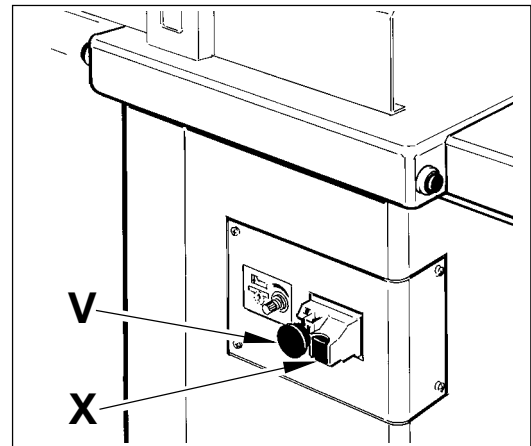

Fig. 5-1 Start buttons
5.1 STARTING UP THE MACHINE (Fig. 5-1)